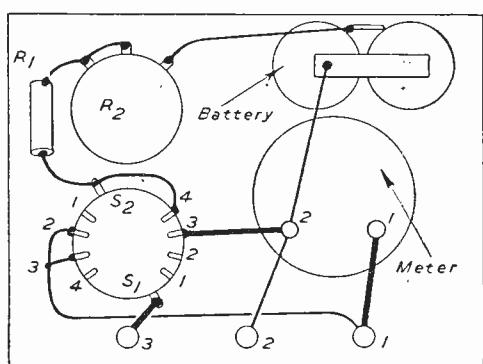
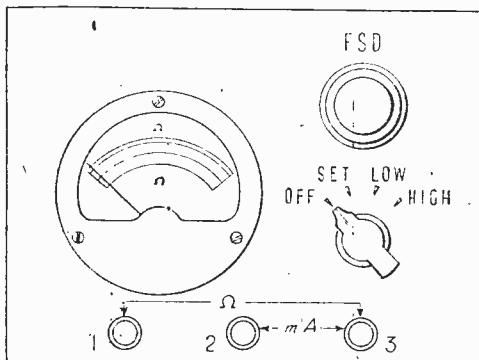

Fig. 2—Rear of panel wiring diagram.
Fig. 3—Front of panel layout and controls.
22. The first part to make is the semi-circular mounting. This consists of brass rod (or any other suitable material) of approximately $\frac{3}{16}$ in. diameter. This is bent to a semi-circle of 4 in. diameter (Fig. 20 (a)), and is then fixed to a piece of mild steel sheet cut to the dimensions shown in Fig. 20 (b) by means of the two brass saddles of Fig. 20 (c). It will be seen that the two "6 B.A. clear" holes on either side of the large hole of part O coincide with similar holes on either side of the hole for the tuning condenser spindle on the front plate in Fig. 3 (a). The centre hole for part O should now be made equal in diameter to that used by the constructor for the condenser spindle on the front plate. When assembled, the semi-circular contact mount, etc., should present the appearance sketched in Fig. 20 (d). It will be noticed that the brass saddles are situated behind part O.
Fig. 2.—Block diagram representing equipment for recording either (on disc) composite effects, such as voices plus crowd noise plus band playing, or (on tape) sound track to be synchronised with cine film.
Fig. 3.—Typical theatre set-up, capable of providing effects from tape, disc, or both, and interval music from disc. All speakers must be generously rated to avoid overloading.
Since the instrument is designed to measure low values of resistance, the internal connections should be made as short as possible and of heavy gauge wire, particularly those shown in heavy line in the theoretical diagram and the wiring diagram, Fig. 2. The switch, whether Yaxley type or not, should be substantial and self-cleaning. The panel should be of wood or metal if insulated terminals are used, otherwise an insulating material should be used. The upper surface of the panel should be covered with white card appropriately drilled and marked, as suggested by Fig. 3. The container in which the instrument is housed is left to the discretion of the constructor, as are the details of how the battery is clamped. The leads to the battery should be soldered to the brass contact strips. When inserting the first battery or a renewal, make sure that the leads are connected so that the milliammeter needle is deflected in the proper direction.